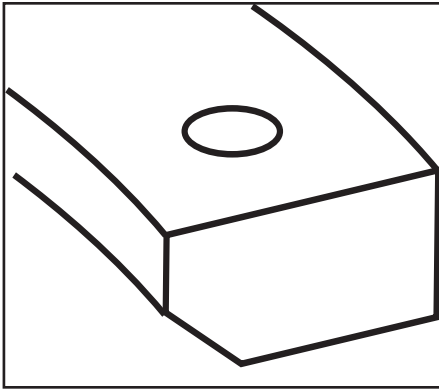

Figure 1
- B- Second compression ring has a darker, charcoal gray finish and slight bevel along inner surface. This ring has a dot. **See Figure 1.** Install in second or middle groove with dot up.
- 2- Plain cast ring usually goes in second groove. Plain cast type is usually a reverse torsion ring distinguished by an inside diameter bevel on one side of ring and a "dot" or oversize mark on other side. **See Figure 1** above. If two cast iron compression rings are supplied in a set, check to see if one is reverse torsion style ring with dot and bevel. Reverse torsion style ring always goes in second groove with dot up if present.
- 6- If ring has dot and inside diameter bevel, dot goes to top of piston. **See Figure 1** above.